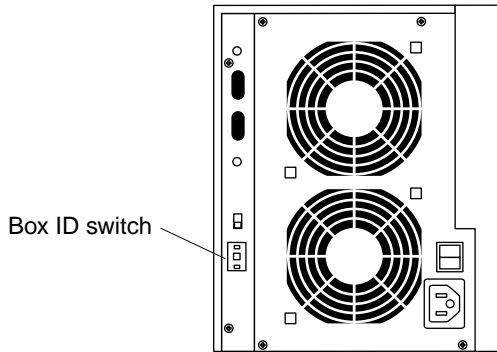

FIGURE 2-5 Box ID Switch Location
On the back of the MultiPack-FC chassis is a box identification (ID) switch (FIGURE 2-5). The box ID number is set at 1 at the factory.